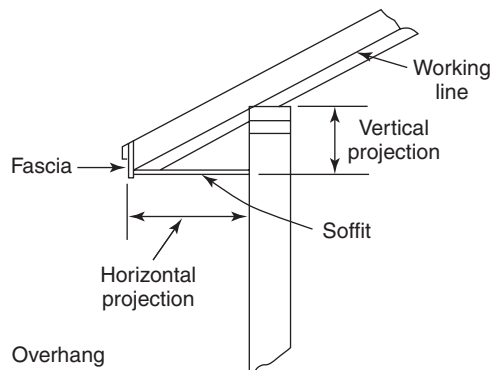

Figure 18–1
Note that the term *horizontal projection* will refer to the distance that the overhang projects outward perpendicular to the framed exterior wall. The term *vertical projection* will refer to the distance the overhang projects vertically, downward from the top plate (see Figure 18–1).
A careful examination of Figure 18–1 reveals that the vertical projection is actually measured with relation to the *working line* of the rafter. Different types of cuts made on the tail of the rafter may necessitate adjustments to calculated projection lengths.
The material used to cover the underside of an overhang is called the *soffit*. The material used to cover the vertical face of the overhang is called the *fascia* (see Figure 18–1). If the distance between door tops and/or window tops and the overhang is under consideration, the thickness of the soffit material must be included in the vertical projection of an overhang.
On certain types of houses, the exterior appearance is enhanced if the horizontal projection of the overhang returns to the front of the building at the door and window tops. If this is a design requirement, the elevation of the top of the door frame trim must be determined. The difference between this elevation and the elevation of the top plate will dictate the vertical projection, soffit thickness included (see Figure 18–2).
- B. The top of the exterior door trim will be $12\frac{3}{4}$ in. below the top plate of the framed exterior wall. The soffit material will be $\frac{3}{8}$ -in A-C exterior-grade plywood. The roof carries a 6-in. slope. Find the horizontal projection of the overhang (see Figure 18–3).